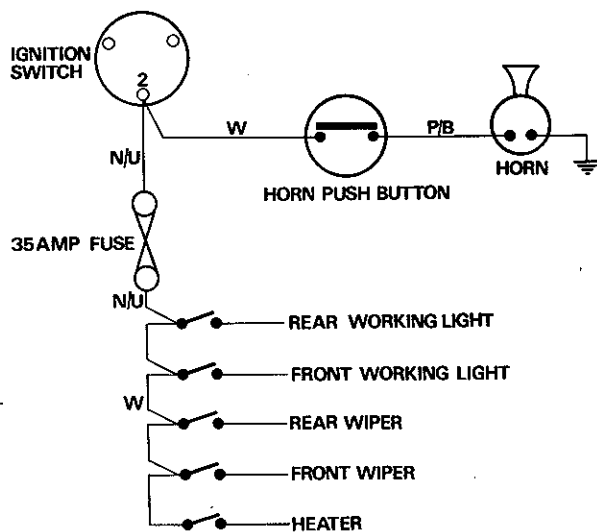

Fig. 7
25. All these components are supplied via position 2 on the ignition switch. The circuits for the working lights, the windscreen wipers and the heater are fused between the ignition switch and the individual switches: 7 and 8 working light switches, 9 and 10 wiper switches, and the heater switch. The circuit for the horn passes from the control button direct to the horn. The circuits are shown in fig. 7.